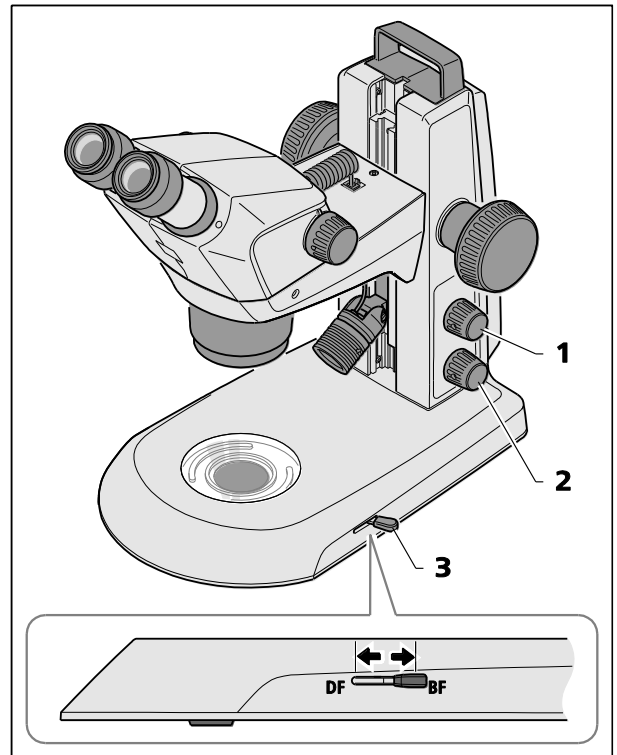

Fig. 25 Transmitted-light module in stand K EDU
- Switch transmitted-light illumination ON by pressing the lower knob (Fig. 25/2).
- Change over by adjusting the lever (Fig. 25/3) between the bright field and the dark field illumination.
- Front position: Dark field (DF)
- Rear position: Bright field (BF)
Press the upper knob (Fig. 25/1) to blend in reflected light (see section 4.2 on page 31).